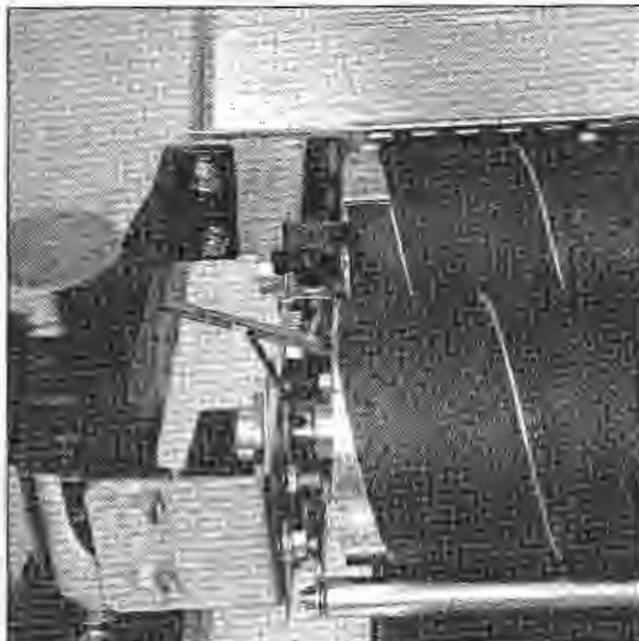
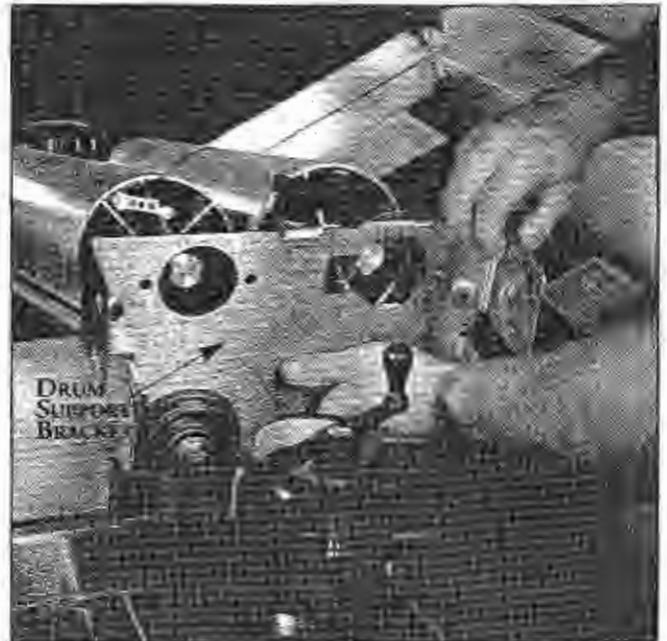

Fig. 33. Loosening drum bearing set screws.
Fig. 34. Removing sanding drum support bracket.
6. Loosen the set screws in the two V-belt pulleys and remove the pulleys. Loosen the two set screws in each of the four bearing collars (Fig. 33). Remove the sanding drum support brackets that hold the bearings (Fig. 34). Remove the sanding drums at this time and install the new drums. If the bearings need replacing, replace them at this time (see page 34).